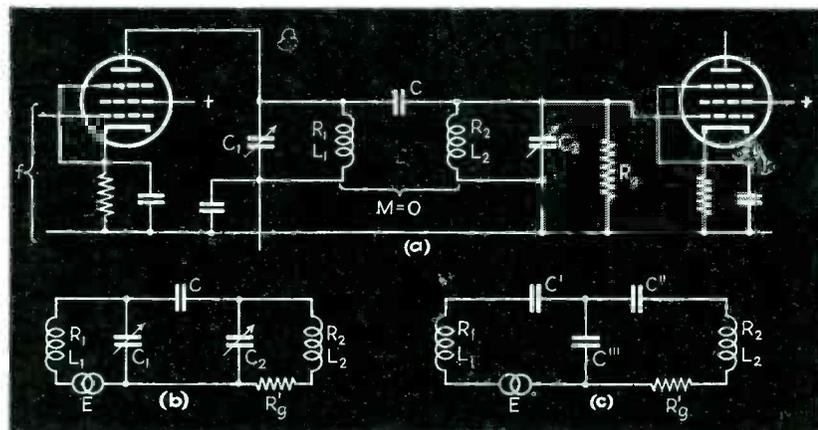

Fig. 3—Schematic diagram of high frequency amplifier. The problem is to determine  $C$  for critical coupling
**Problem 1.** In the high-frequency amplifier shown in Fig. 3 critical coupling is obtained in the band filter for a certain value of the coupling condenser  $C$ . Determine this value of  $C$  for an input frequency  $f = 75$  kc. (At this frequency stray admittance may be neglected.) Given are  $L_1 = L_2 = 2000 \mu h$ ,  $R_1 = R_2 = 6.5$  ohms and  $R_g = 100,000$  ohms. The loading effect of the amplifying tube may be neglected.
$C$  is then obtained from the expression for  $C'''$  above and comes out approximately  $C = 24 \mu\mu f$ . The equivalent circuits and the coupling network are shown in Fig. 3.